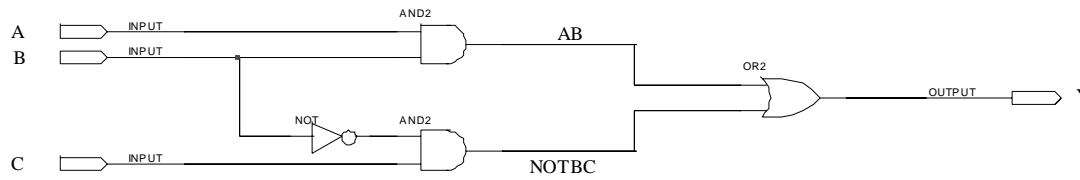

FIGURE 3. SIMPLE COMBINATIONAL CIRCUIT
- Using the Graphic Editor, enter the schematic shown in Figure 3. This circuit is a realization of the simple Boolean expression, $Y = A*B + /B*C$, where "*" indicates the Boolean AND operator, "+" indicates the Boolean OR operator and "/" indicates the Boolean NOT operator. The components needed for the circuit are AND2, NOT, OR2, INPUT and OUTPUT.
- Label the pin names and internal nets as shown in Figure 3.